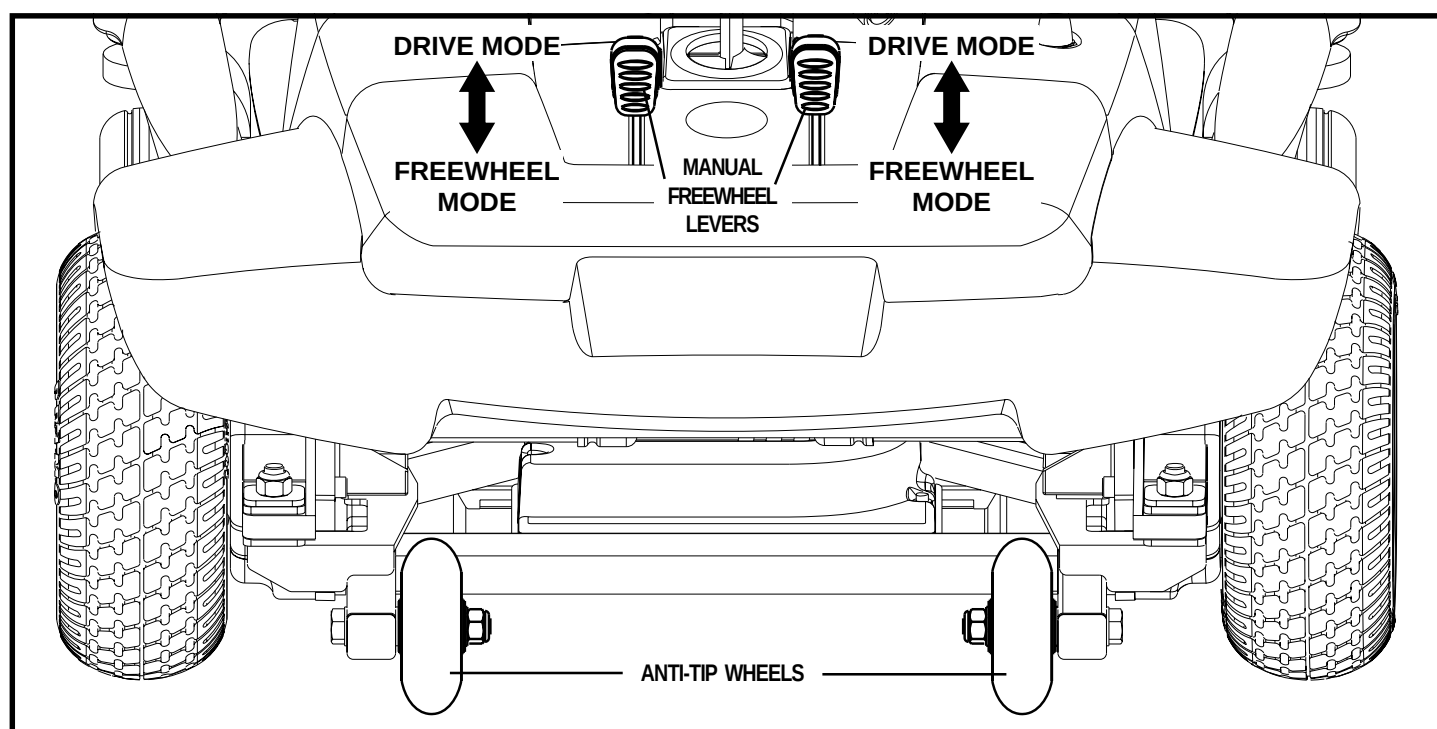

Figure 7. Back of Power Base
1. Locate the levers on the rear section of the power base. See figure 7.
2. Push the two levers forward to engage the drive motors (drive mode). See figure 7
3. Pull the two levers rearward to disengage the drive motors (freewheel mode). See figure 7.
The anti-tip wheels are an integral and important safety feature of your power chair. See figure 7.